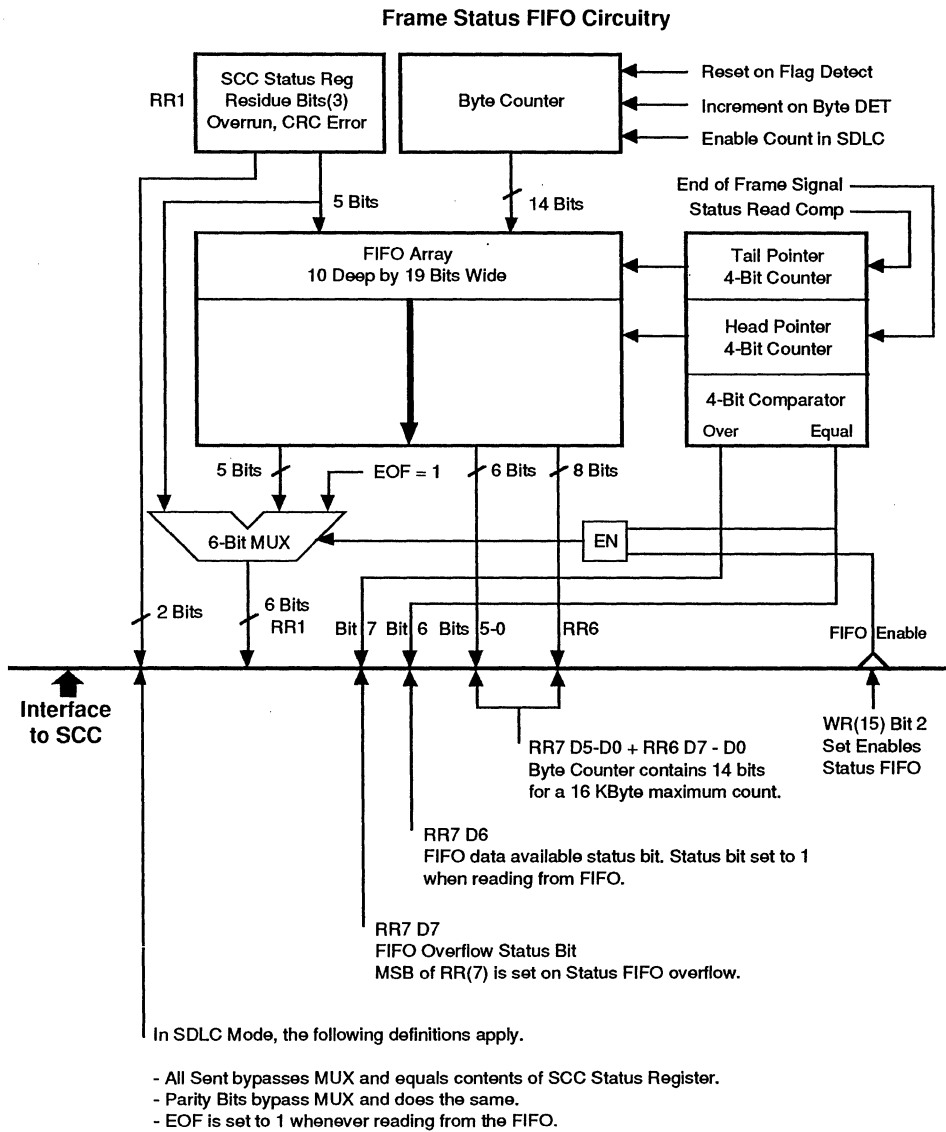

Figure 16. SDLC Frame Status FIFO
When used with a DMA controller, the Z85230 SDLC Frame Status FIFO enhancement maximizes the ESCC's ability to receive high speed, back-to-back SDLC messages. It minimizes frame overruns due to CPU latencies in responding to interrupts. Additional logic was added to the industry standard SCC consisting of a 10-bit deep by 19-bit wide status FIFO, 14-bit receive byte counter, and control logic as shown in Figure 16. The 10 x 19 bits status FIFO is separate from the 8-byte receive data FIFO.
**FIFO Detail.** For a better understanding of details of the FIFO operation, refer to the block diagram in Figure 16.
**SDLC Status FIFO Anti-Lock Feature.** When the Frame Status FIFO is enabled and the ESCC is programmed for "Special Receive Condition Only" (WR1 D4=D3=1), the data FIFO is not locked when a character with End of Frame status is read (Figure 16). When a character with the EOF status is at the top of the FIFO, an interrupt with a vector for receive data is generated. The command "Reset Highest IUS" must be issued at the end of the interrupt service routine regardless if an interrupt acknowledge cycle had been executed (hardware or software). This allows a DMA to complete transfer of the received frame to memory and then interrupt the CPU that a frame has been completed without locking the FIFO. Since in the "Receive Interrupt on Special Condition Only" mode the interrupt vector for receive data is not used, it is used to indicate that the last byte of a frame has been read out the receive FIFO. Reading the frame status (CRC, byte count and other status stored in the status FIFO) to determine EOF is not required.